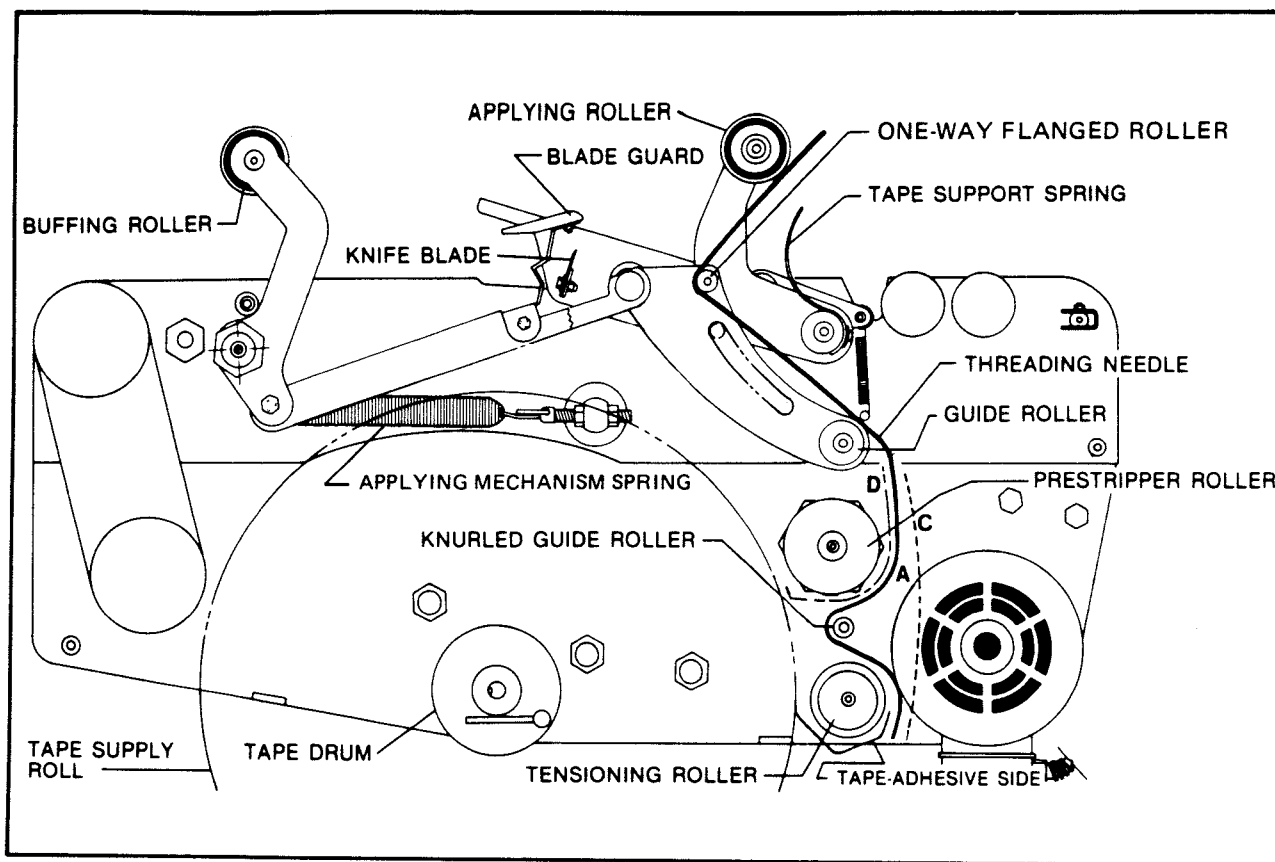
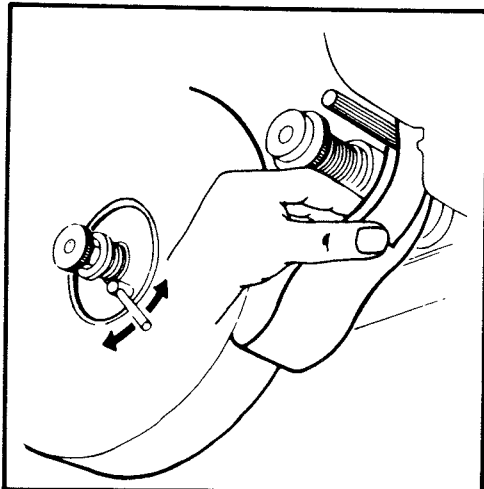

FIGURE 5A TAPE THREADING DIAGRAM - BOTTOM TAPING HEAD - LEFT SIDE VIEW
FIGURE 5C
- 1) With the temporary threading needle already in position, as shown in figure 5A, follow the tape loading procedure from figure 5C to complete the tape threading with this exception; thread tape around tensioning roller, knurled guide roller and prestripper roller in one of three paths depending on the application.
FIGURE 5C - Turn eccentric roller lever inward to rest against tape drum shaft and place tape roll on drum to dispense tape from bottom of roll toward guide roller with tape adhesive side up. Seat tape roll fully against back flange of drum and turn roller lever outward to secure tape roll. Adhere tape lead end to upper end of threading needle as shown.